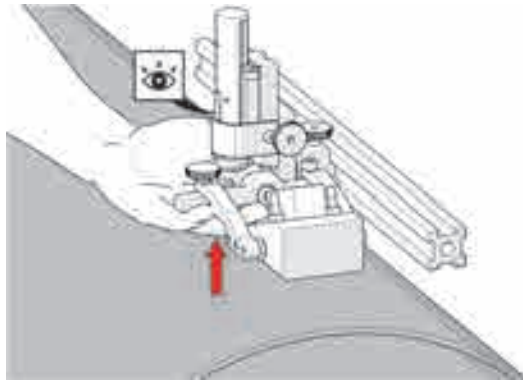
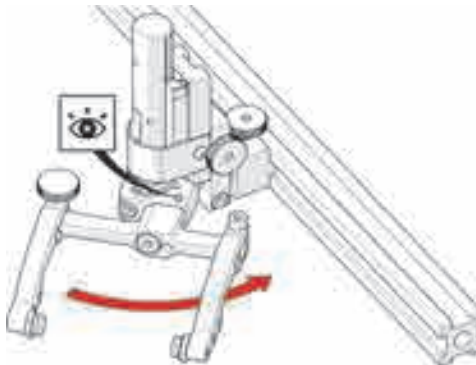

Figure 4-56 Latch probe holder
Figure 4-62 Stop post locates 90°
1. Ensure the probe holder is in the latched, upper position. Lift the probe holder until the latch is fully exposed and snaps out to lock (see Figure 4-56 on page 138).
1. Ensure the probe holder is in the latched, upper position (see Figure 4-56 on page 138).
4. To return the transverse adjustment to neutral (90°), the probe holder must be in the latched, upper position (see Figure 4-56 on page 138). Rotate the yoke until the stop post contacts the base of the probe holder, and then tighten the transverse adjustment screw (see Figure 4-62 on page 141).